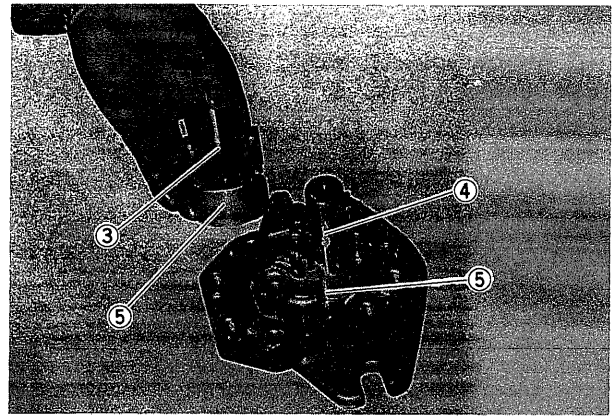

Fig. 112
- 3) Take off gears ③ and ④ along with bearing ⑤. (Fig. 112)